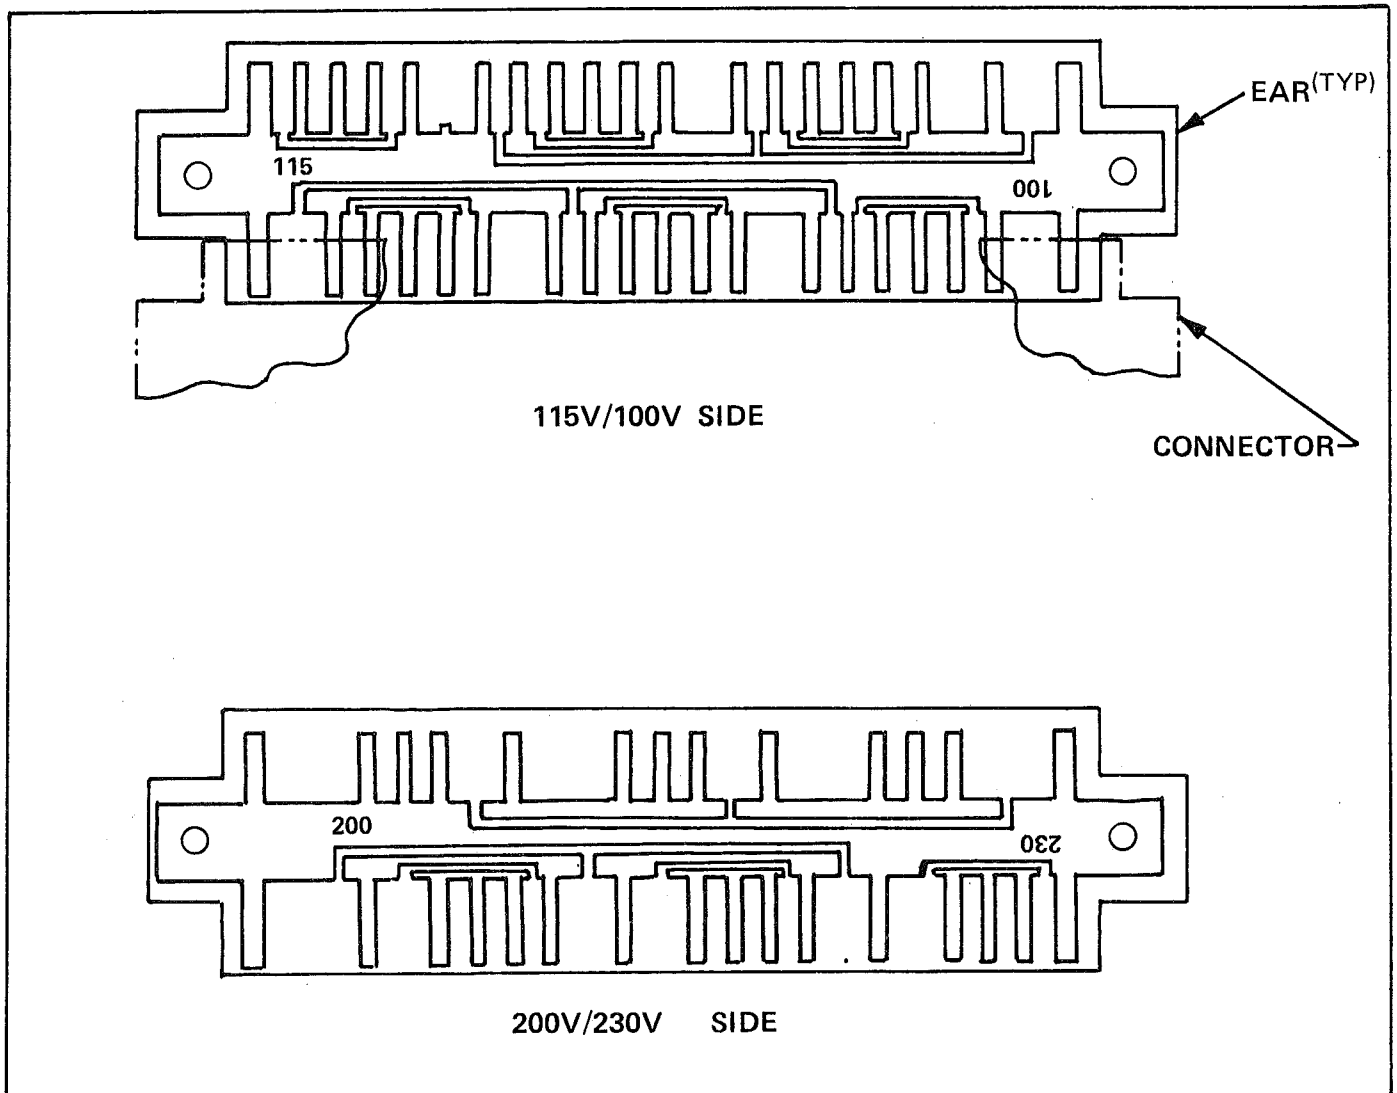

FIGURE 2-4 A. C. JUMPER BOARD
If it becomes desirable to operate the recorder at some voltage other than the specified one, the A.C. Jumper Board (Figure 2-4) must be repositioned, and the fuses replaced.
1. Carefully place screwdriver blade between "EAR" of board and "CONNECTOR" and pry board upward from connector, first from one "EAR", then the other (See Fig. 2-4.)